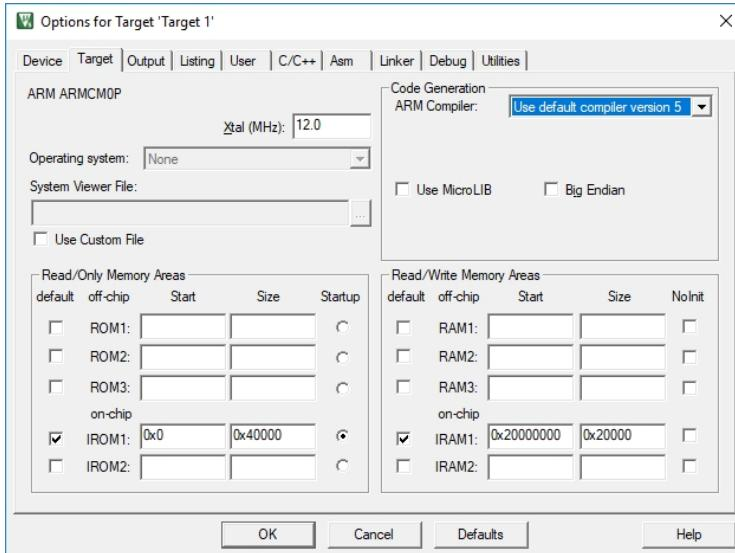

Figure 26. Setting Options for Target Compiler
- On the second toolbar row, click the  Target Options icon (or select menu Project→Options for Target 'Target1' ...) to launch the Options for Target 'Target1' window, as shown in Figure 26.
- Click on the Target tab along the top of the window to get the options shown in Figure 26.
- At the top right, under the tabs, in the Code Generation options, use the pull-down dialog to the right of ARM Compiler to select Use default compiler version 5, as shown in Figure 26.